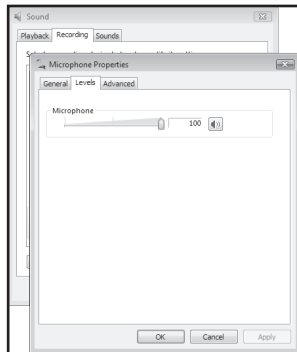

Figure 9
4. To set the gain of the microphone, make sure the Samson Q2U is selected in the **Recording** tab and click the **Properties** button. Under the **Levels** tab, move the **Microphone** slider to adjust the analog amplifier circuitry in the microphone (figure 9).